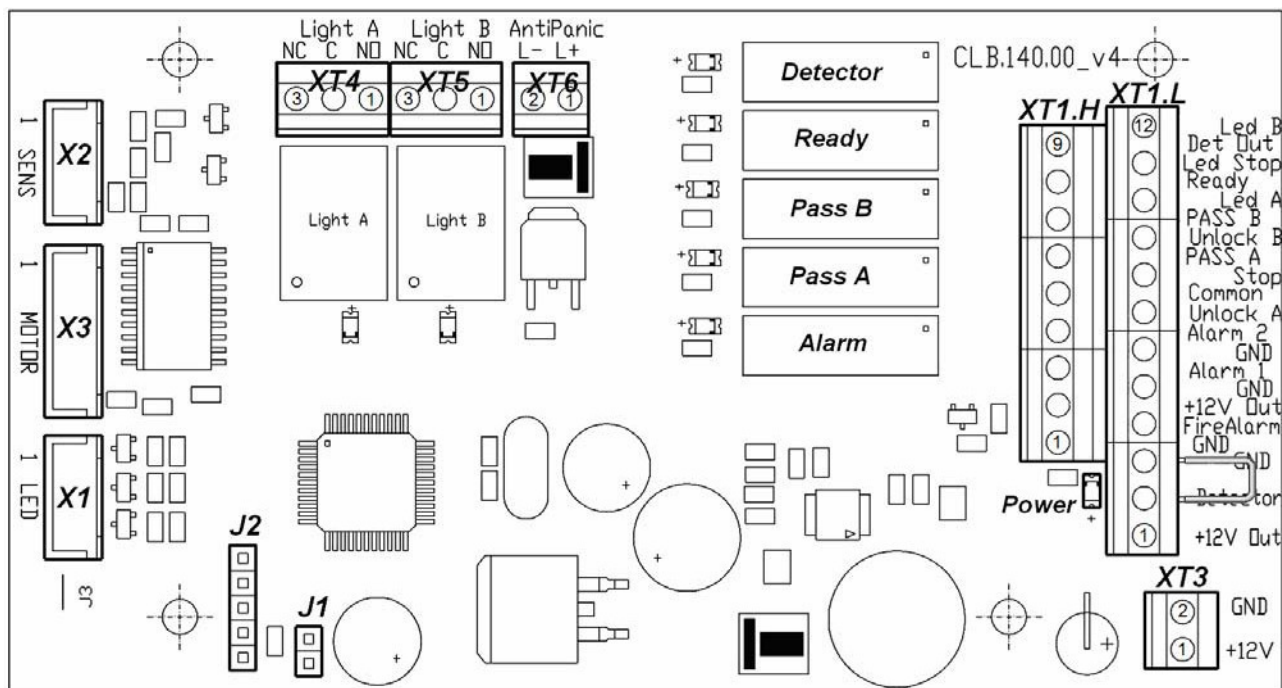

Figure 4. Control Logic Board (CLB)
The CLB (Fig. 4) includes:
Connection of the devices is made in accordance with the connection layout (Fig. 4 and 12) by the multicore cable (14) to the out connector block **XS1** that has contact leads with connector blocks **XT1.L** and **XT1.H** of the CLB.
The CLB relay operation/release is indicated by lighting up/going down of the red test indicators located near the corresponding relays (Fig. 4).
The control mode is set by the jumper on the **J1** connector (the J1 connector location is shown on Fig. 4 and on a label located on the inner surface of turnstile cover (2)): the jumper is fixed — the pulse control mode, the jumper is not fixed — the potential control mode. The jumper is fixed at the factory before the delivery.
The intrusion detector is connected to the **XT1.L**, connector block, and the siren is connected to the **XT1.H** connector block of the CLB according to the connection layout (Fig. 4 and Fig. 12). There should be normally closed contacts on the intrusion detector.